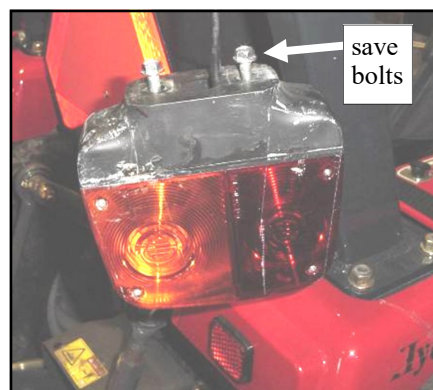

Fig. 1.3 (brake/hazard light)
1.3 Per fig. 1.3, remove the brake/hazard lights from each side of the vehicle and let hang by the wire until step 8.2 on page 6. Save the bolts and the protective metal frames for re-installation.